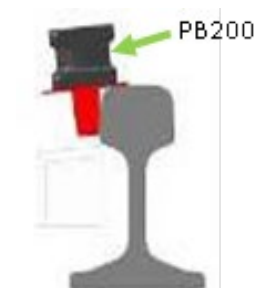

Figure 1 – PB200
2.2 Place the PB200 testing plate on the railhead to the left of the axle counter wheel sensor in the start position (Figure 1).